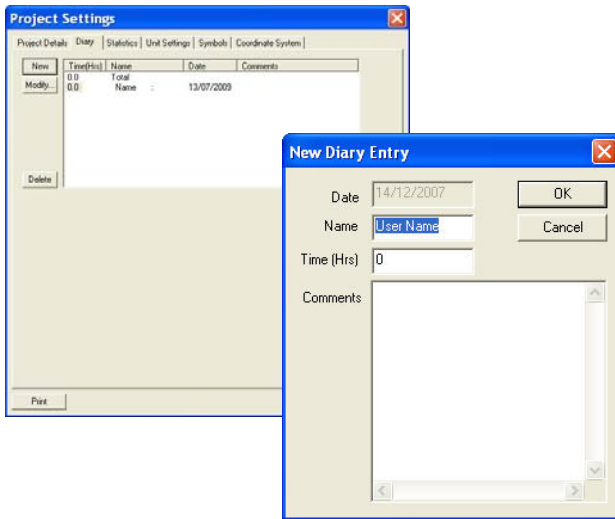

Figure 8-4. Project Settings – Diary Tab
- Click **Settings** ► **Project Settings**. The *Project Settings* dialog box appears (Figure 8-4 on page 8-5).
- Click on the **Diary** tab, then click **New**. The *New Diary Entry* dialog box appears (Figure 8-4 on page 8-5).
The current date set in Microsoft Windows is automatically entered in the *New Diary Entry* dialog box (Figure 8-4).